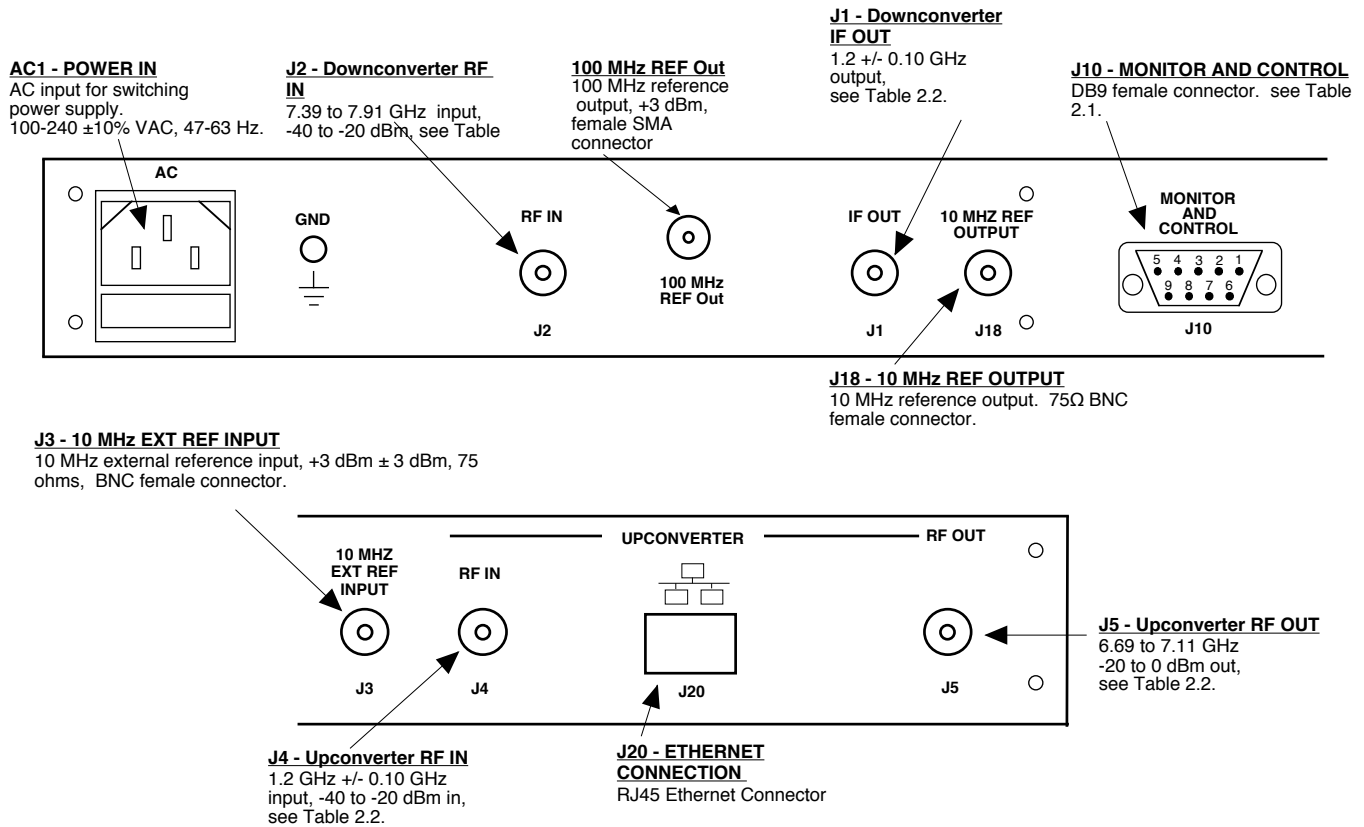

Figure 2.1 Model 3117-7179#-1200 Rear Panel I/O's
- 1.) Connect a -40 dBm to -20 dBm signal to RF In, J4 (Figure 2.1).
- 1.) Connect a -40 dBm to -20 dBm signal to RF In, J2 (Figure 2.1).